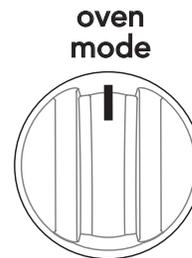

Figure 19: Oven mode knob
3. Turn the **oven mode** knob to the **conv bake** position (Figure 19).